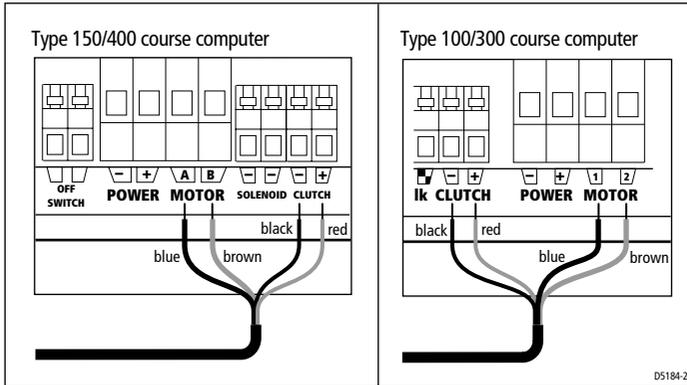

Figure 18: Connections at course computer
3. Connect the motor cables (thicker blue and brown cables) and the clutch cables (thinner red and black cables) to the connections on the course computer as shown in *Figure 18*.